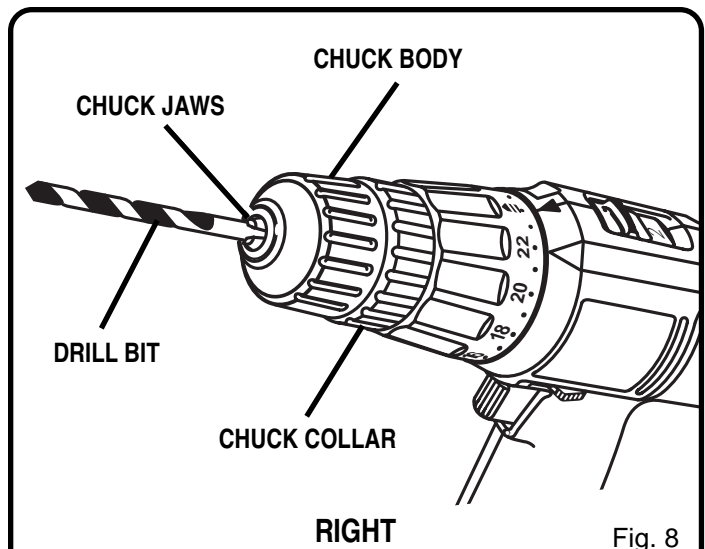

Fig. 8
- Insert your drill bit into the chuck the full length of the jaws. See Figure 8.
See Figure 8.